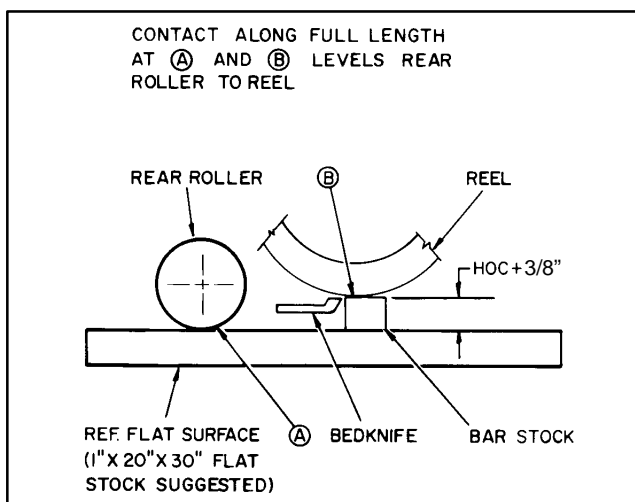

Figure 11
5. Insert piece of bar stock (Fig. 11) 25"–28" (70 cm) long with thickness equal to desired height-of-cut, under entire length of the reel, next to bedknife.